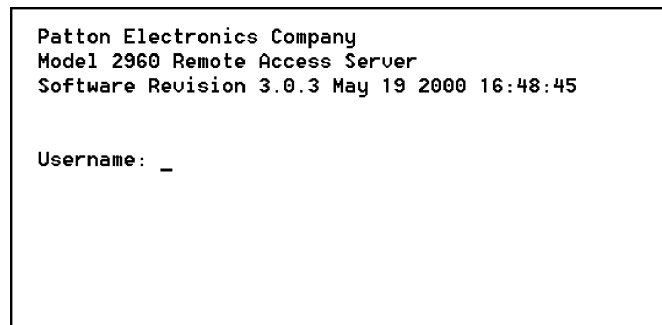

Figure 43. Login window
4. Press <RETURN> to display the login window (see figure 43).